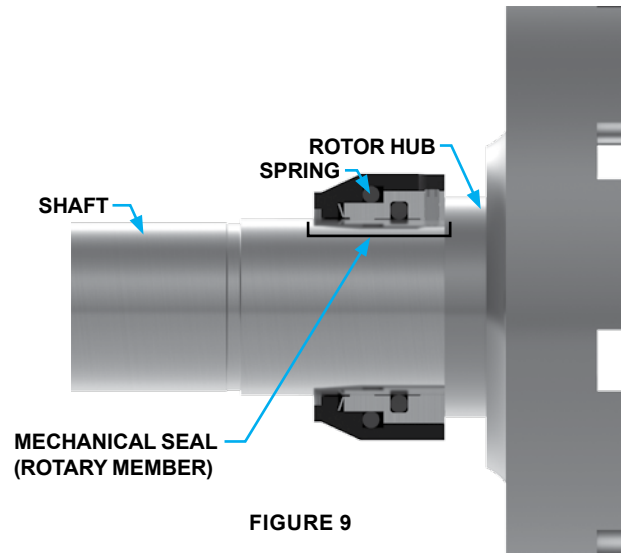

FIGURE 9
5. Slide the rotary member, lapped contact surface facing away from the rotor, over installation sleeve on shaft until just contacting the back of the rotor. See **Figure 9**. Remove the installation sleeve. **Tighten the setscrews evenly to 90 in-lbs.**